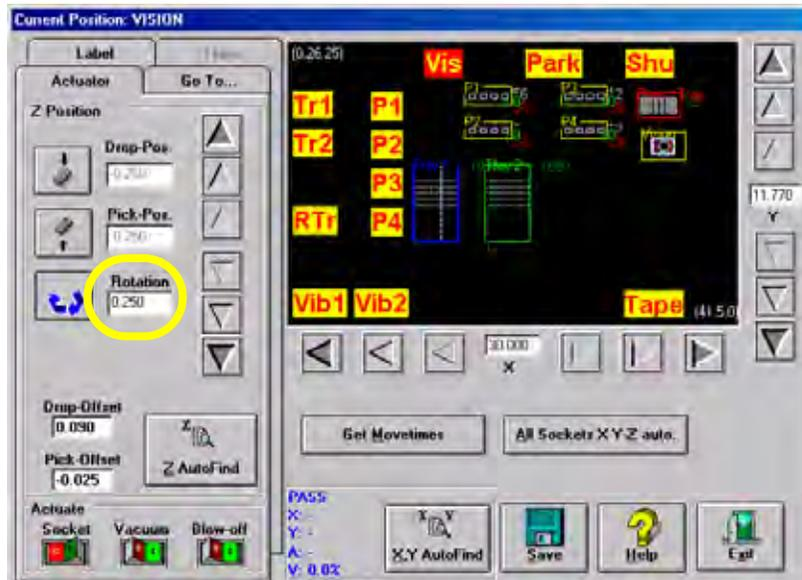

Figure 3-29—Rotation value at Vision
**NOTE:** For example, if a device must be rotated a quarter turn in the clockwise direction as it goes from the input media to the socket, set the R-axis at the socket to -0.250. In this example, 0.250 is entered. See *Figure 3-29*.